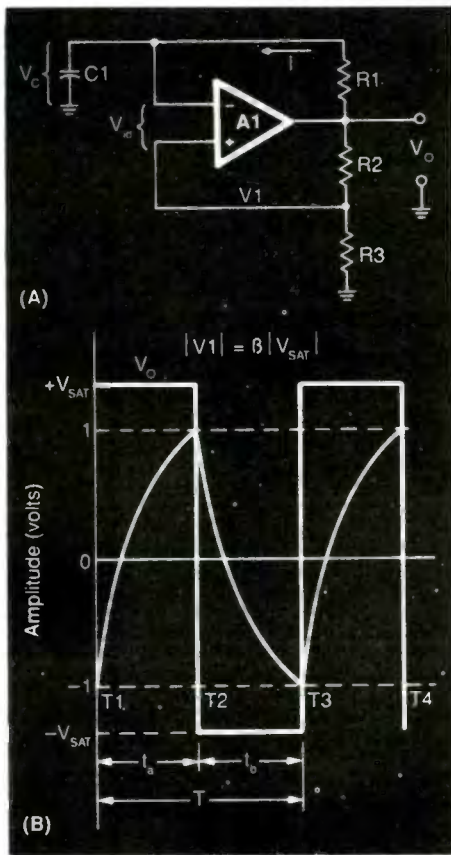
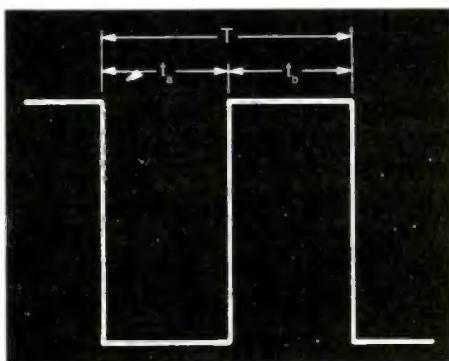
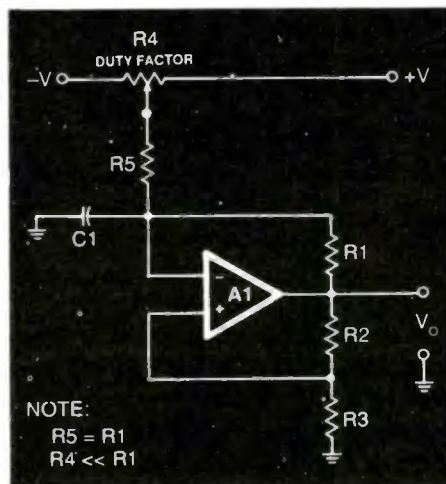
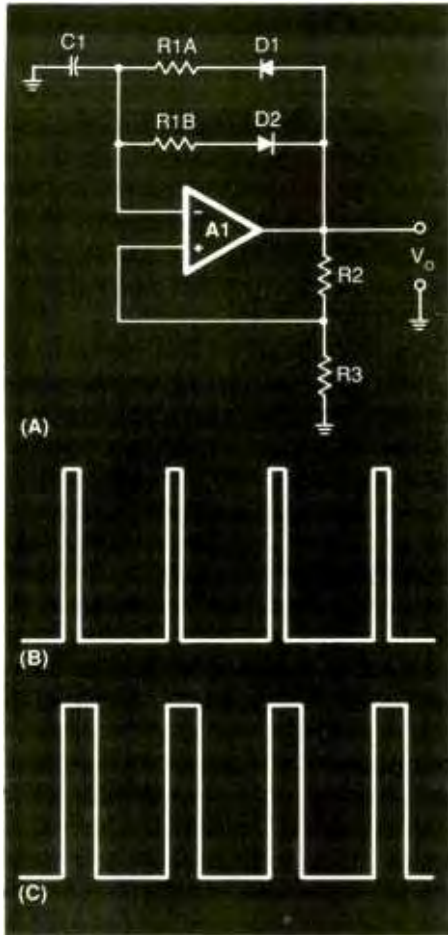

Fig. 2. (A) Circuit details for a simple op-amp square wave generator and (B) timing waveforms.
Fig. 3. Square wave train.
Fig. 4. Potentiometer provides variable duty cycle square wave.
Fig. 6. (A) Diode circuit for producing asymmetrical, but fixed, duty-cycle square wave. (B) Two different ratios of feedback resistors.
erator is shown in Fig. 2(A). The basic circuit configuration is similar to the simple voltage comparator. Operation depends upon the relationship between  $V(-IN)$  and  $V(+IN)$ . The voltage applied to the noninverting (+) input [ $V(+IN)$ ] is determined by the resistive voltage divider composed of  $R2$  and  $R3$ . This voltage is shown as  $V1$  in Fig. 1(A) and is calculated as follows:
Voltage  $V(-IN)$  applied to the inverting ( $-$ ) input is the potential that appears across  $C1$ , or  $V_{C1}$ , and is created when  $C1$  charges under the influence of current  $I$  that, in turn, is a function of  $V_o$  and the  $RC1$  time constant. Timing of the circuit is shown graphically in Fig. 2(B).
snaps from +VSAT to -VSAT, which is time t2 in Fig. 2(B). The capacitor now begins to discharge from +V1 towards zero, and then recharges towards -VSAT. When it reaches -V1, the inputs are once again zero; so the output again snaps to +VSAT. The output continuously snaps back and forth between -VSAT and +VSAT, thereby producing a square wave output signal.
In Fig. 2(A), the RC time constant is calculated for the R1C1 values. From Fig. 2(B), it should be apparent that for interval ta VC1 = -BVSAT, VC2 = +BVSAT and V = VSAT. To calculate period T, use the formula:
The circuit shown in Fig. 2(A) produces time-line symmetrical square waves ( $t_a = t_b$ ), such as Fig. 3. If time-line asymmetrical square waves are required, a circuit like those shown in Fig. 4 or Fig. 6(A) is required.
The Fig. 4 circuit utilizes potentiometer  $R4$  and a fixed resistor  $R5$  to establish a variable duty cycle asymmetry. This circuit is similar to the one shown in Fig. 2(A), except offset circuit  $R4/R5$  has been added. Assumptions here are that  $R5 = R1$  and  $R4$  is much less than  $R1$ . If  $V_a$  is the potentiometer output voltage,  $C1$  charges at a rate equal to  $(R1/2)C1$
The circuit shown in Fig. 6(A) also produces asymmetrical square waves, but the duty cycle is fixed instead of being variable. Once again, the basic circuit here is like that shown in Fig. 2(A), except that it has added components. In Fig. 6(A), the RC timing network is altered in such a manner that the resistors are different on each swing of the output signal. During  $t_a$ ,  $V_a = +V_{sat}$ ; so  $D1$  is forward biased and  $D2$  is reverse biased. For this interval:
Equation [20] defines the oscillation frequency of the Fig. 6(A) circuit. Figures 6 shows the effects of two